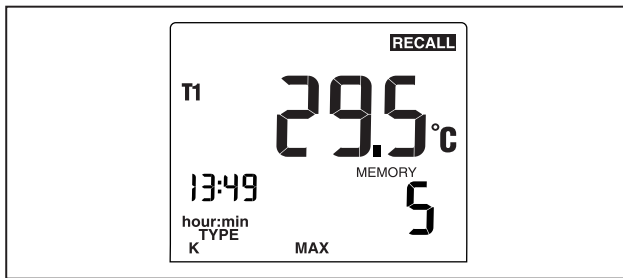

Figure 4. Maximum Reading
- Press  to step through the minimum, maximum, average, and current logged reading. For example, Figure 4 shows the maximum reading in memory. The maximum reading occurred at 1:49 P.M. and was stored in memory location 5.